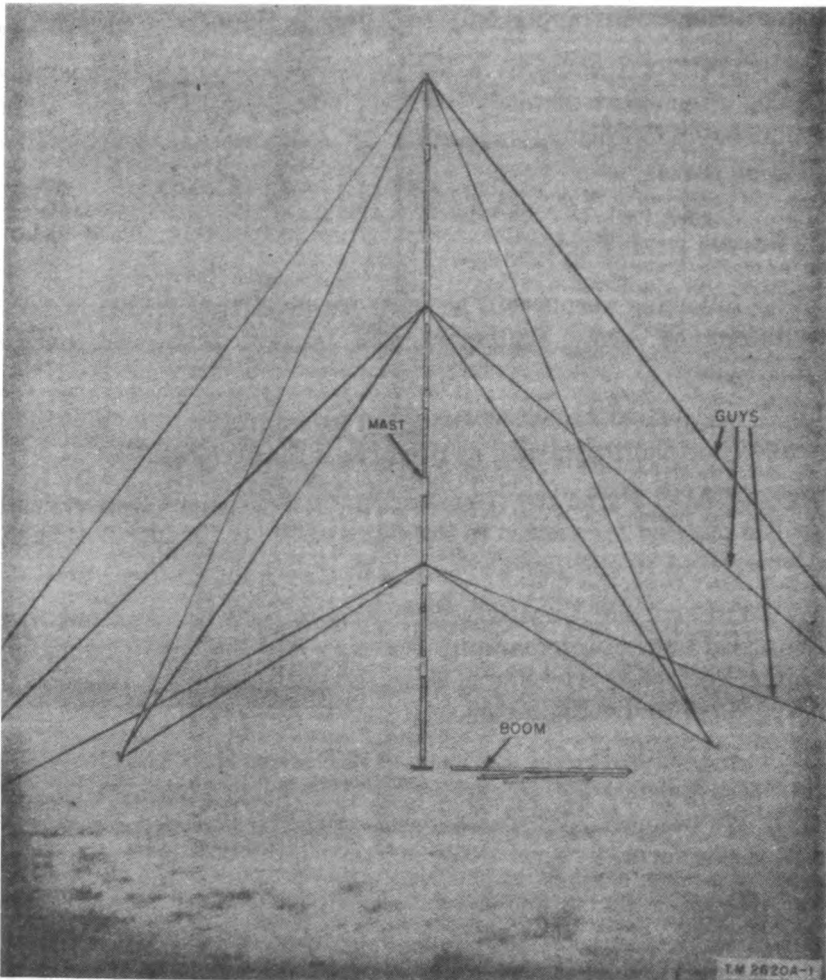
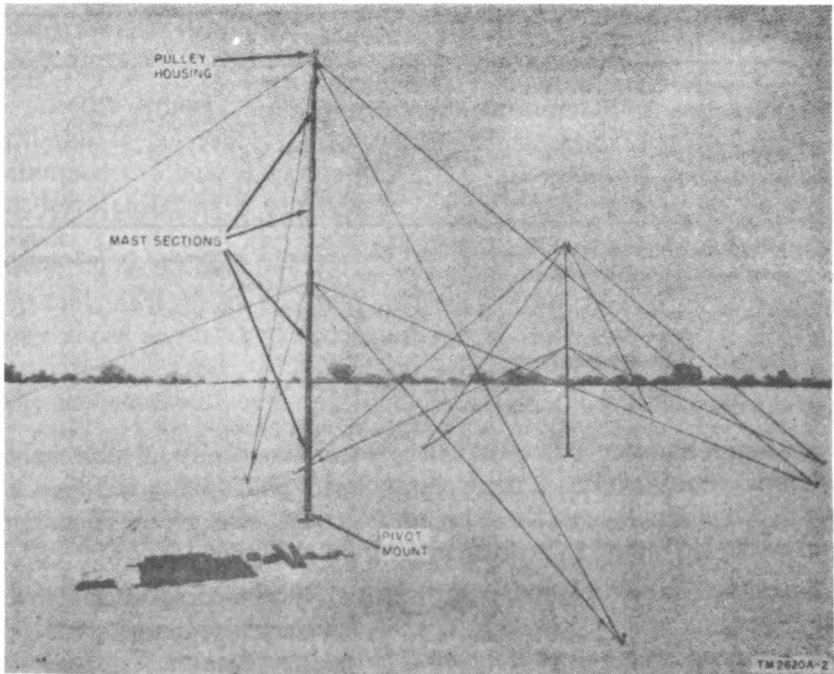

Figure 1. Antenna Support AB-38B/CR, 50-foot mast.
Figure 2. Antenna Support AB-38B/CR, 25-foot masts.
a. Antenna Support AB-38B/CR is an eight-section assembly that can be set up as a single 50-foot mast (fig. 1) or as two 25-foot masts (fig. 2). Each mast is pivot-supported at the base (fig. 1) and is adjusted and guyed in a fixed vertical position. At least two men are required to erect the equipment.